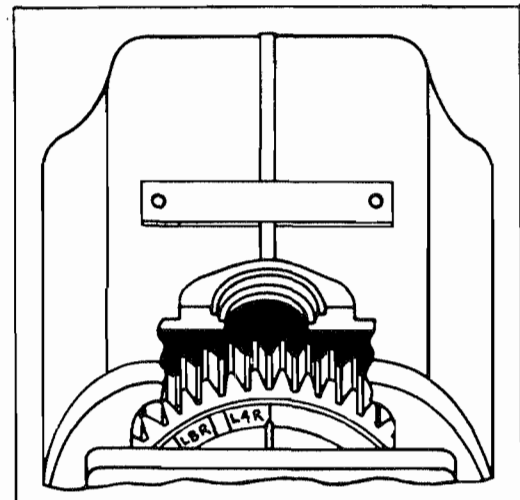

Figure 911. Alignment of Timing Marks on Distributor Gear - 4 Cylinder, Right Hand Rotation
- D. Holding the distributor gear (25) and block (21) timing marks aligned, assemble block and gear into housing, meshing distributor and drive gears together. It may be impossible to mesh the gears to timing rib on the block and distributor gear timing marks line up exactly. The acceptable misalignment is as follows:
- (1) 4 cylinder, all types and 8 cylinder without retard contracts: the timing rib on the distributor block must align  $\pm 1/2$  tooth of the L or R mark, depending on magneto rotation. (See Figure 911).